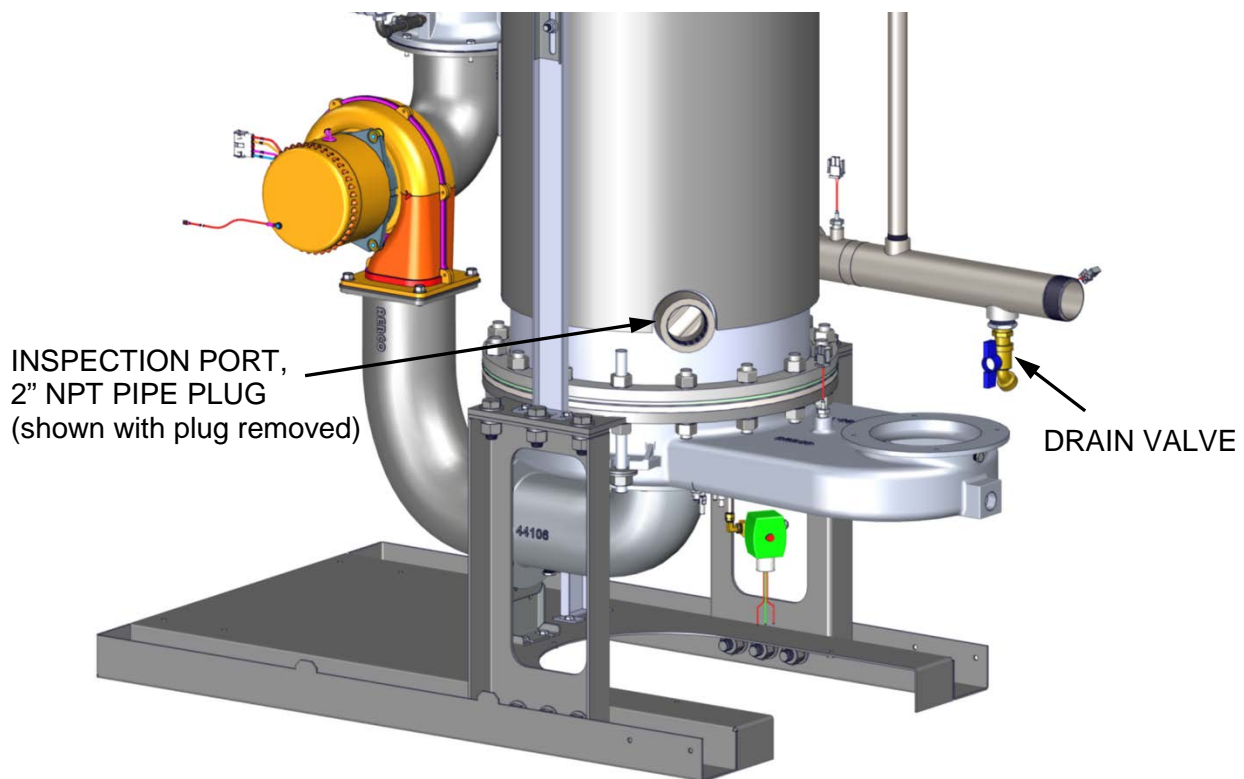

Figure 6-7: Lower Waterside Inspection Port Location
Inspection of the lower tubesheet area is done using the 2” NPT inspection port in the lower section of the shell, as shown in Figure 6-7.
4. Referring to see Figure 6-7, below, remove the 2” NPT plug near the base of the heat exchanger shell (a little additional water may flow from the port).